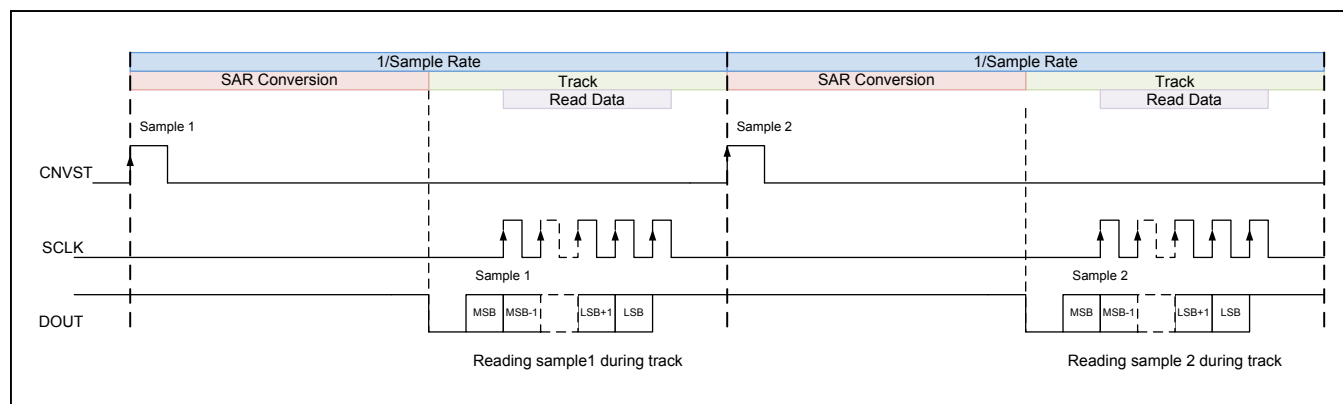
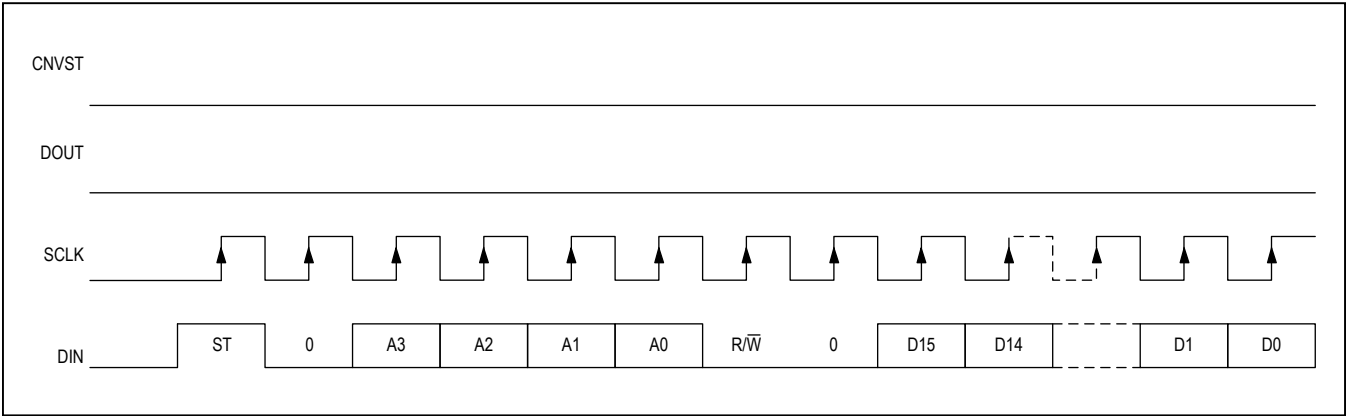

Figure 5. Read During Track Phase
Figure 11. Mode Register Write
- Reading during track phase (Figure 5)
When reading during track phase mode, the data is read only while the ADC is in track mode. Figure 5 shows the SPI signal for this reading mode.
All SPI operations start with a command word. The structure of the command word is shown below. If there is no start bit, i.e. DIN is low, the part will output the conversion result and then go idle (see Figures 5, 6, and 7). The 16-bit mode register is the only register that can be written to. Figure 11 shows the waveform for a mode register write operation.
\*Conversion result can also be read as shown in Figures 5, 6, and 7.